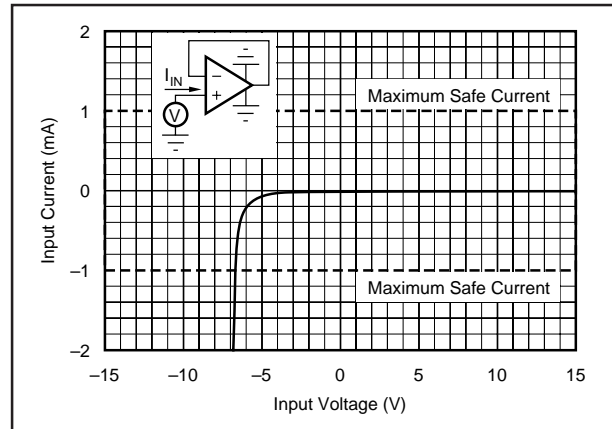

FIGURE 2. Input Current vs Input Voltage with  $\pm V_{CC}$  Pins Grounded.
(2) Packages must be derated based on  $\theta_{JA} = 90^\circ\text{C}/\text{W}$  for PDIP and  $100^\circ\text{C}/\text{W}$  for SOIC. (3) For supply voltages less than  $\pm 18\text{VDC}$ , the absolute maximum input voltage is equal to  $+18\text{V} > V_{IN} > -V_{CC} - 6\text{V}$ . See Figure 2. (4) Short circuit may be to power supply common only. Rating applies to +25°C ambient. Observe dissipation limit and  $T_J$ .
Unlike BIFET amplifiers, the *Difet* OPA124 requires input current limiting resistors only if its input voltage is greater than 6V more negative than  $-V_{CC}$ . A  $10\text{k}\Omega$  series resistor will limit input current to a safe level with up to  $\pm 15\text{V}$  input levels, even if both supply voltages are lost (Figure 2).